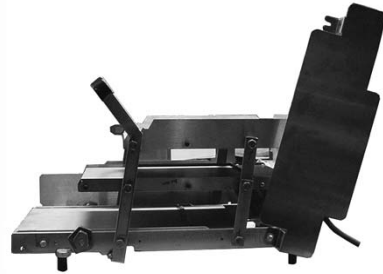

Figure 19
- Remove the side covers, as shown, for further cleaning. (See **Figure 19**.)